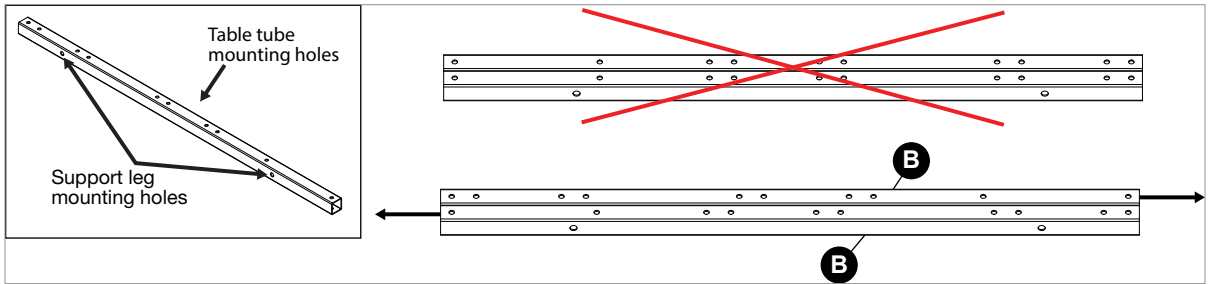

Fig. 15
FOR ICS OR PCS SAWS ONLY: Place the four table support tubes (B) on the floor behind your table saw and align them as shown in Figure 15. In order to align the table support tubes, place two tubes next to each other, with the ten table tube mounting holes on the top and bottom and the two support leg mounting holes on the sides.